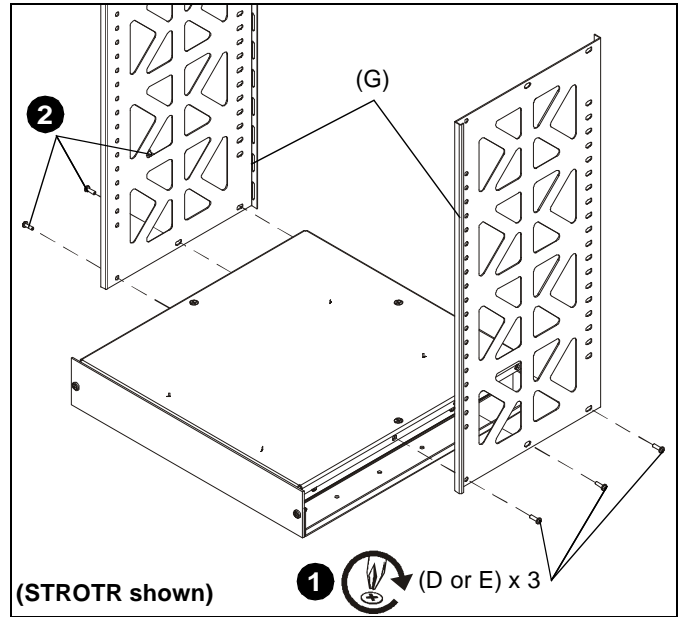

Figure 3
1. Loosely assemble side mounting plate (G) to base side using three fasteners (D - for WROTR; E - for STROTR). (See Figure 3)